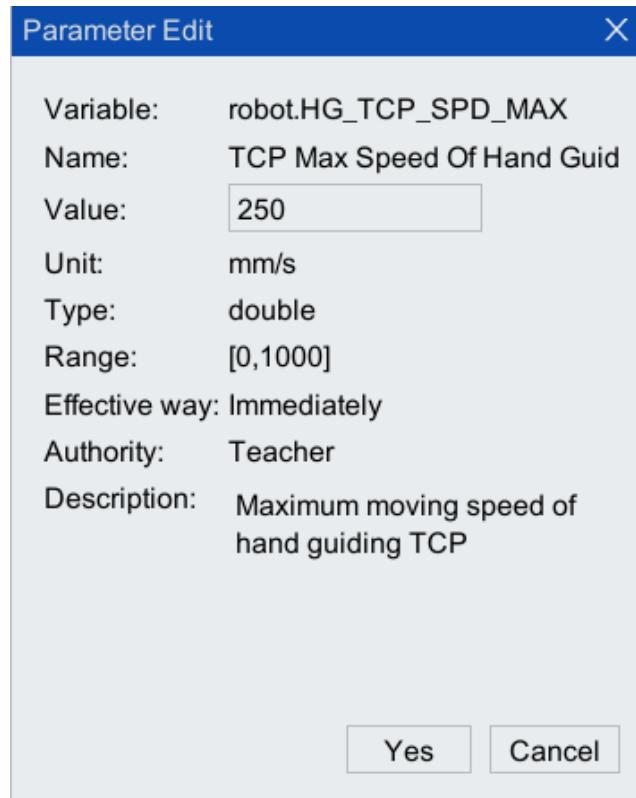

Figure 5-42 Drag allowed TCP maximum speed parameter setting interface
Step4. In the pop-up [Parameter Edit] interface (as shown in Figure 5-42), configure the [Value]. Parameter description is shown in Table 5-10.